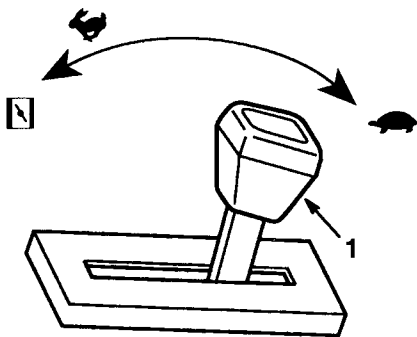

Figure 12
2. Move throttle lever to START  position (Fig. 12).
5. When engine starts, move throttle to FAST  position (Fig. 12).